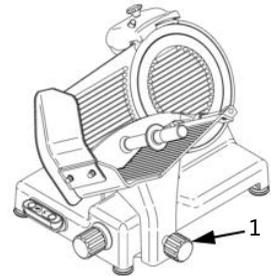

Fig. 18
- Check if the tray has been properly attached using the carriage locking knob (1, fig. 18).